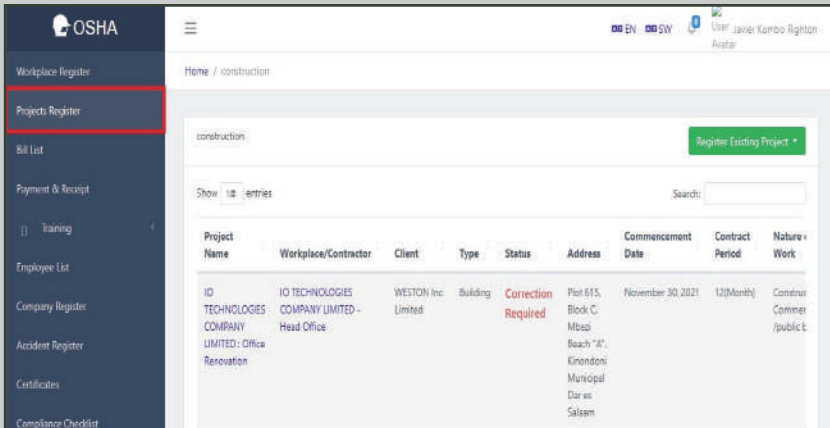

Figure 26: Accessing options for project registration
- i) Click on the Project Register menu access option for project registration as shown on Figure 26 .